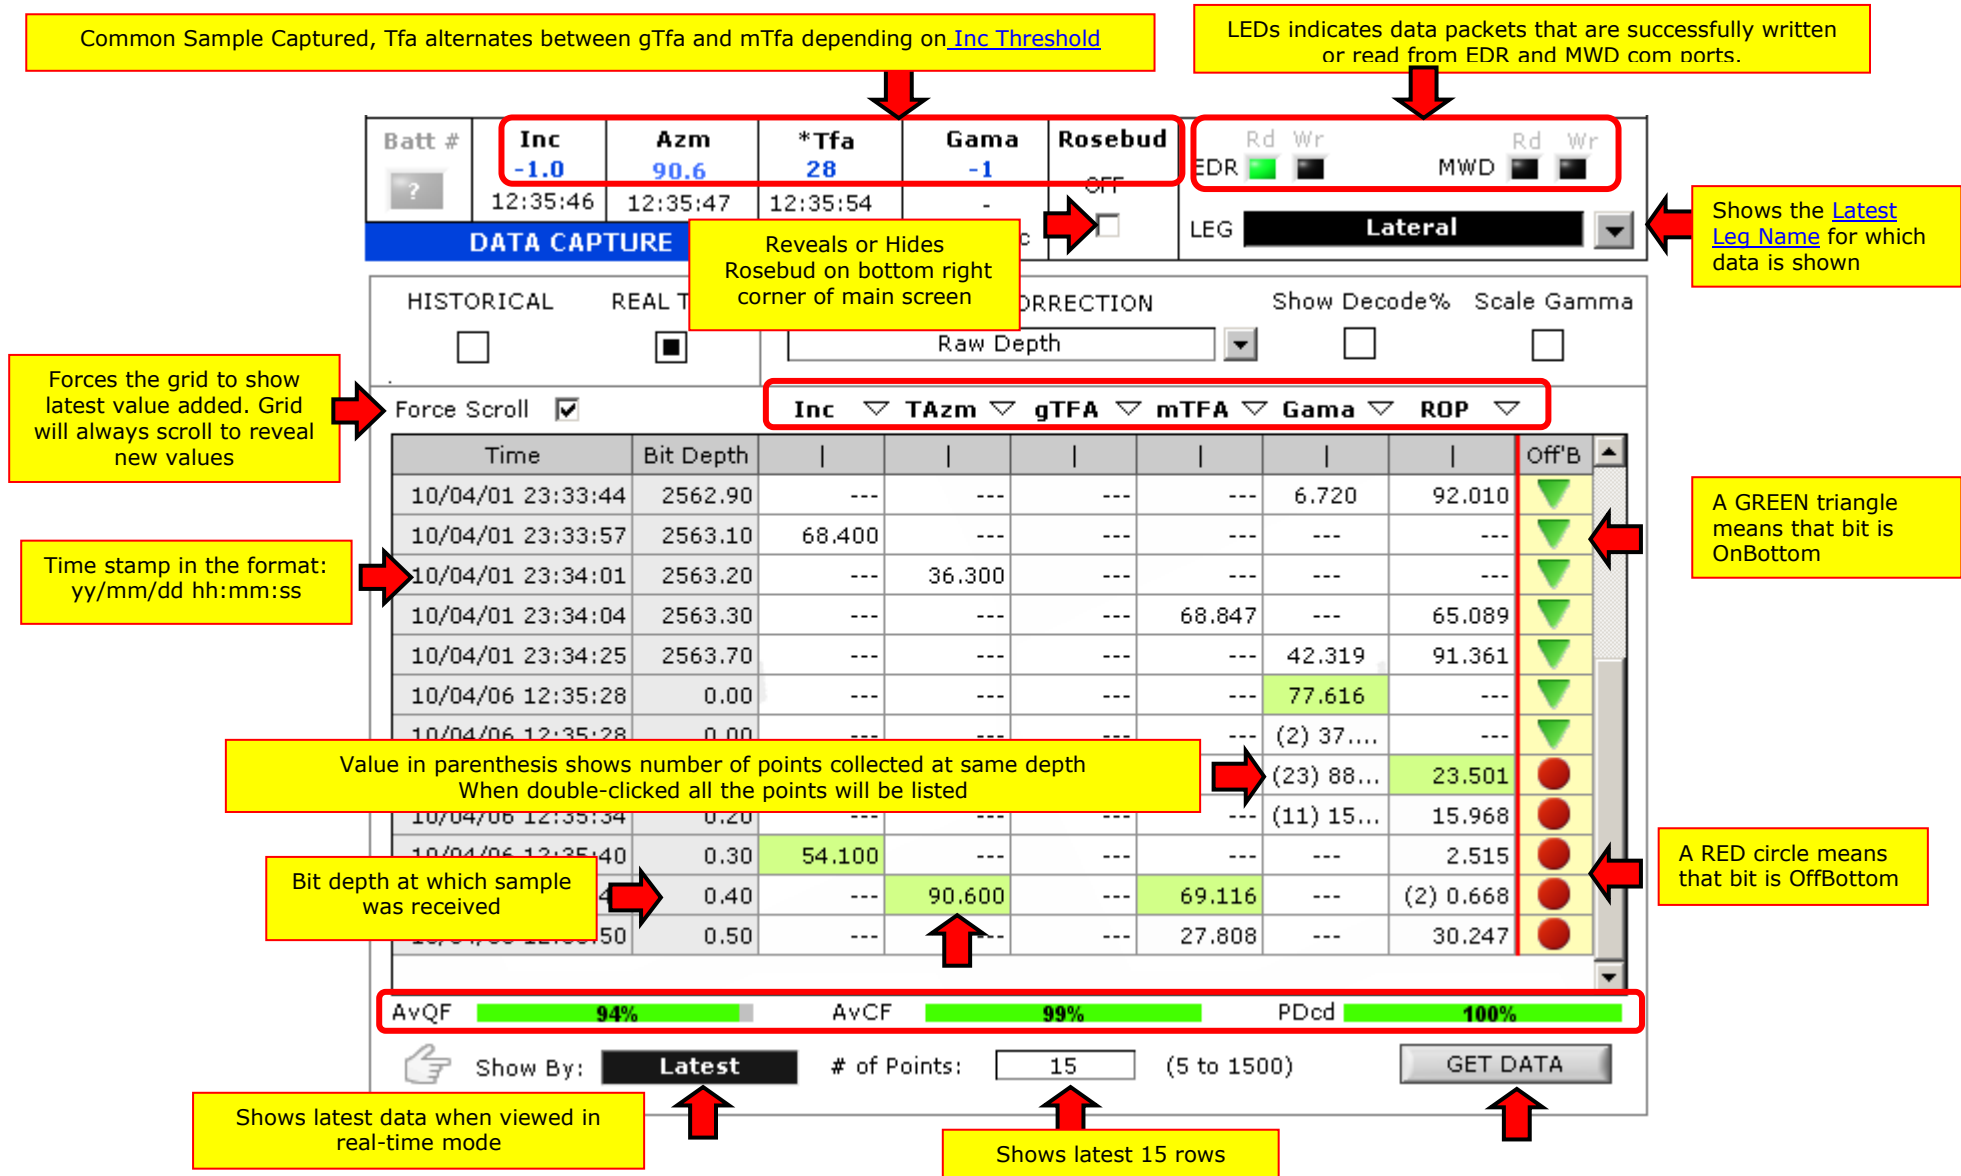

Figure 56. Data Capture Window showing samples captured in real time from Com Ports connected to EDR WITS and MWD Systems.
- (1) Real-Time Mode: This mode shows data as it gets captured in real-time from the Pason EDR and MWD COM Ports. Up to six samples can be selected for data capture monitoring. The samples available for selection are the ones configured for a specific job template. You can click on the on the sample names to bring up a list of samples to choose from. Each time a sample value is captured, the time stamp and depth at which the data is captured will show up on a row. Some important aspects of the grid are high -lighted on the data capture window of **Figure 56**.
The survey section appears at the bottom of the Main Screen and is shown in **Figure 62 (a)**. If the Rosebud is enabled using the check box on the data Capture section see (**Figure 56**) then the Survey screen section will give-way to a Rosebud compass chart shown in **Figure 62 (b)**. Other features of the survey section are highlighted in **Figure 63**.